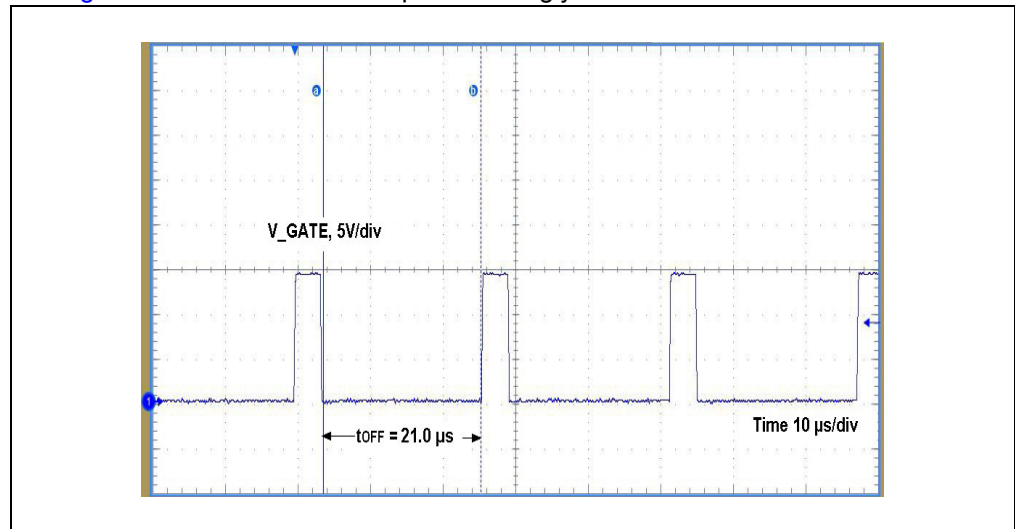

FIGURE 4-3: MCP1012 V_GATE Voltage, t_{OFF} Interval.
9. Check on the oscilloscope screen the V_GATE voltage, as it is presented in the Figure 4-3. Set the oscilloscope accordingly.